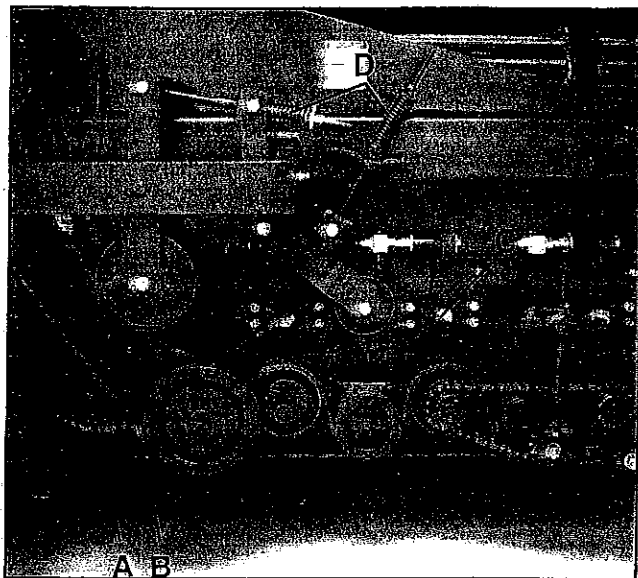

FIGURE 25 - LEFT HAND DRIVES
The bed chain drive, #60H roller chain (see Figure 25, page 19), is protected with a friction clutch (A). The clutch is set by tightening all of the bolts snug and loosening each bolt two revolutions. Readjust as necessary by turning each bolt in 1/4 turn increments until bed chain will carry the load.
The primary grab roll belt drive (B) and final grab roll belt drive (C) (see Figure 25) are tensioned by spring loaded idlers. These should be tightened so springs (D) are compressed to 5-1/4" for primary and 4-1/2" for final drive. These must be further tensioned if any belt slippage occurs.